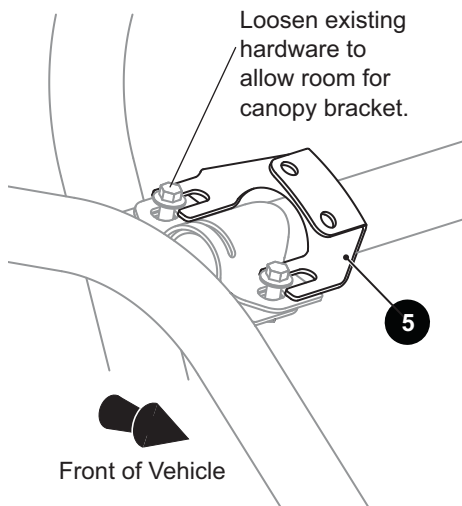

Fig. 1 Canopy Mounting Brackets
- 1. Loosen the ROPS (Roll Over Protection System) hardware at each of the four upper corner brackets (Ref. Fig. 1). Do not remove the bolts completely.
- 2. Slide the passenger side front canopy mounting bracket (5) underneath the bolt heads at the front passenger side of the ROPS.